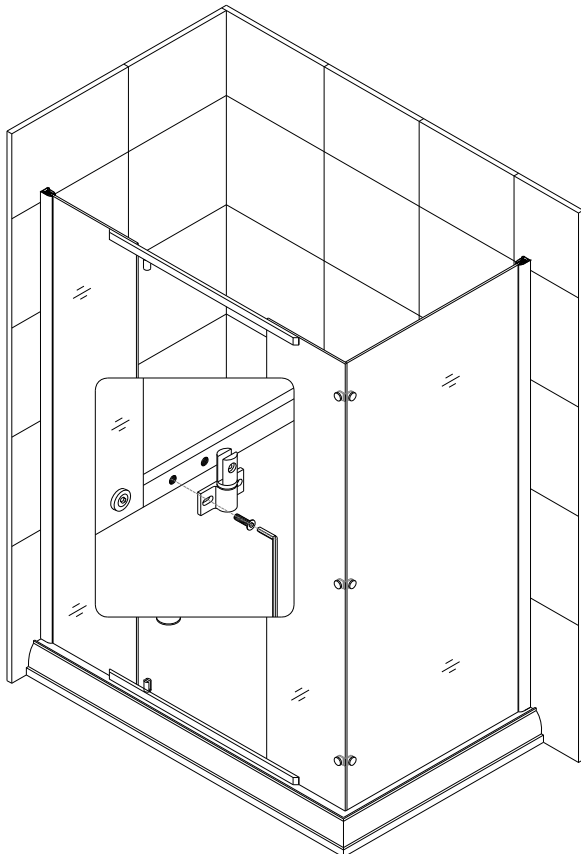

Fig 7
6. Locate two **Pivot assemblies (09)**. Fasten them to the pivot bar using **Round head bolts M8x12 (21)**. See Fig 7 for details.